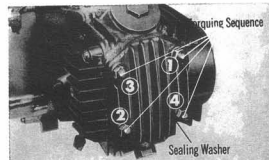

Fig. 30
3. The position of the cylinder head nuts is ①, ②, and ③ for the blind nut, and ④ for the plain nut. Do not omit the sealing washer on the ④ position (Fig. 30).
4. When torquing down the cylinder head, tighten the nuts uniformly in a diagonal sequence as shown in Fig. 30 and torque to the final specified torque value of 90-120 kg-cm (6.5-9 ft-lb).